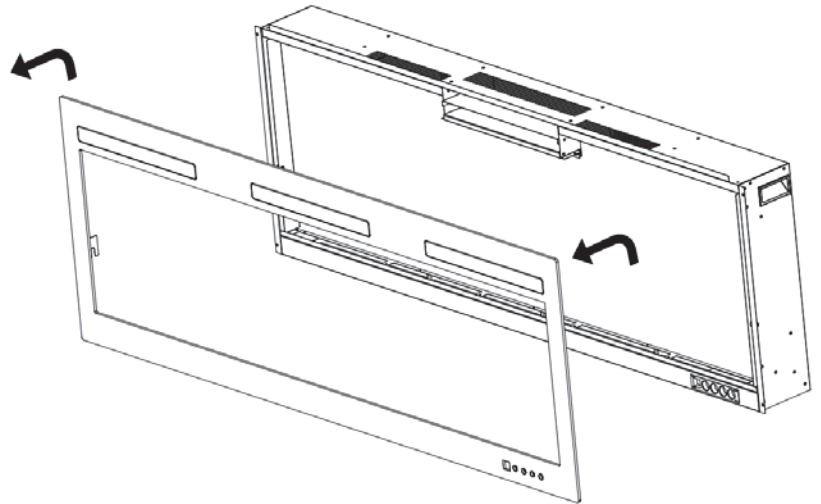

Fig. 1-2
- B. Carefully lift the front trim up and away from the appliance (**Fig. 1-2**). Place it face down on a soft, non-abrasive surface.